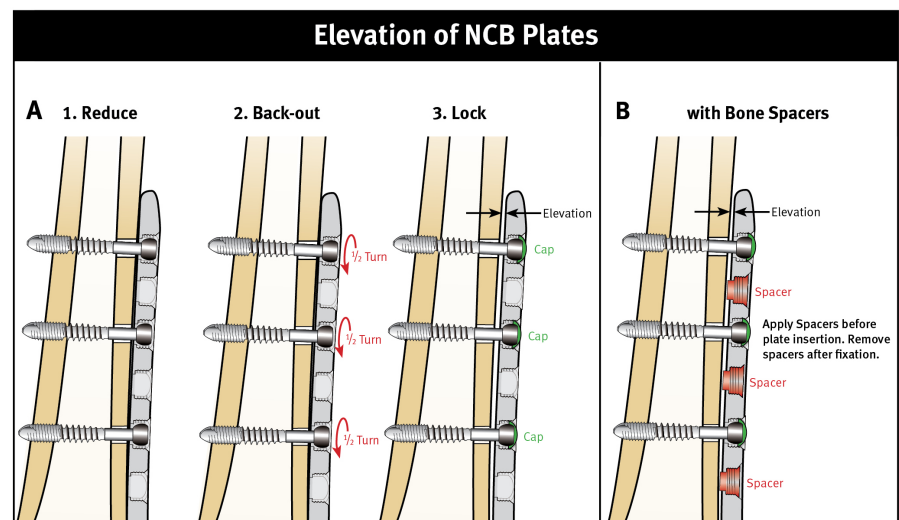

Fig. 23
**NOTE:** If NCB Spacers are not used, and the plate is directly adjacent to the bone, the *MotionLoc* Screws should be backed out ½ turn to provide a 1mm gap between the plate and the bone (Fig 23).